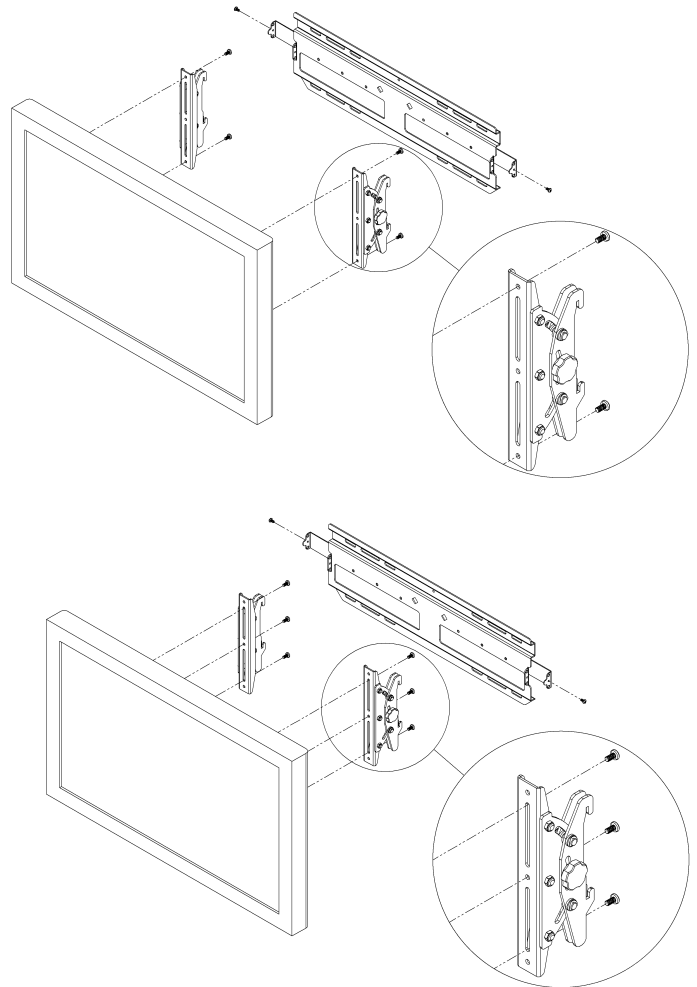

Figure 2. Install Brackets on Display
1. Place the interface brackets (20 and 30) on the back of the display, aligning the holes with the mounting inserts (See Figure 2).
2. Secure the left and right interface bracket assemblies (20 and 30) to the display using screws (40) or (130).